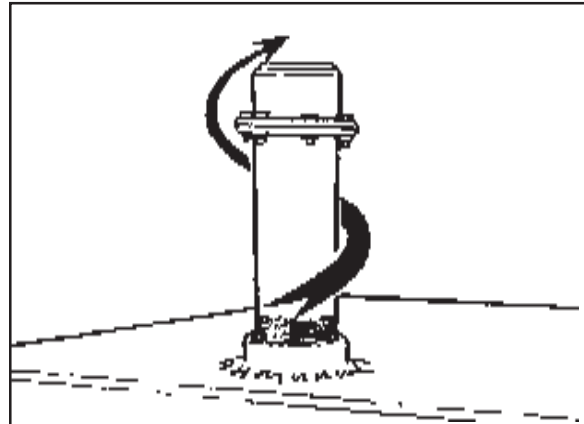

Figure 31
2. Remove Filler Cap. Remove Filler cap only when ready to fill hydraulic Tank with Oil. Do Not leave the Cap off and the system Open, always keep system closed when possible. Avoid any oil contamination. (See Figure 31)